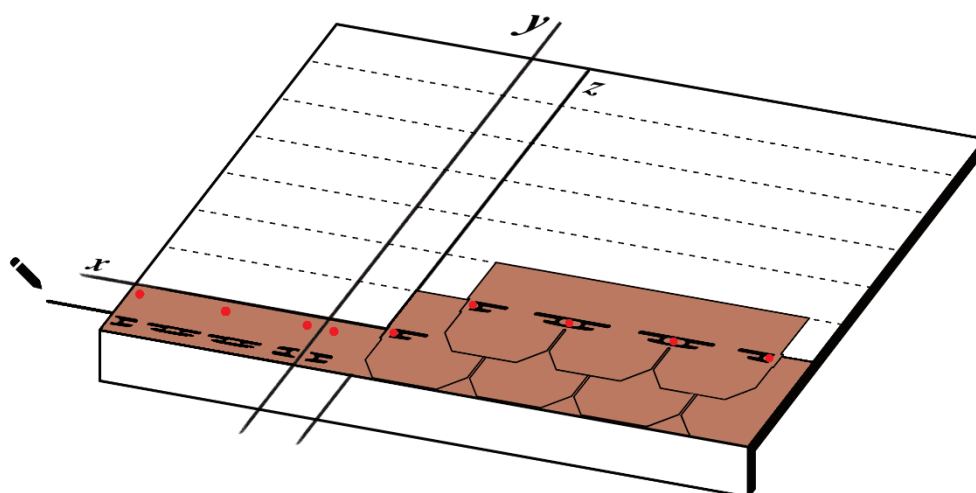
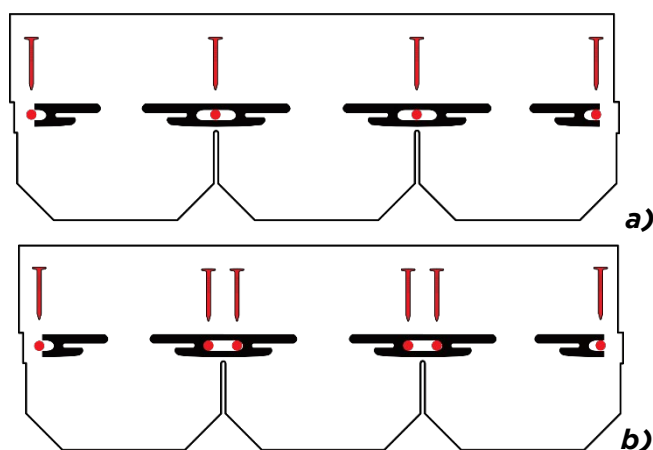

Fig. 7 - Shingles installation
Fig. 8 - Shingle nailing a) slopes <60°; b) slopes >60°
- Apply over the membrane/underlayer a bead of bituminous adhesive Bitustick close to the gutter line - Fig. 7;
- Proceed with the installation of the first row of shingles: align the lateral edge of the first shingle on the vertical **z** and the upper edge on the horizontal 14,5 cm from **x** - Fig. 7. Nail the shingle to the substrate by placing 4 nails per shingle, in the centre of the self-adhesive points, as per Fig. 8 a). In the event of pitched slopes between 60° and 85°, place 2 additional nails close to the second and third nail, for a total of 6 nails per shingle, as per Fig. 8 b). Proceed by placing all the shingles in the first row.